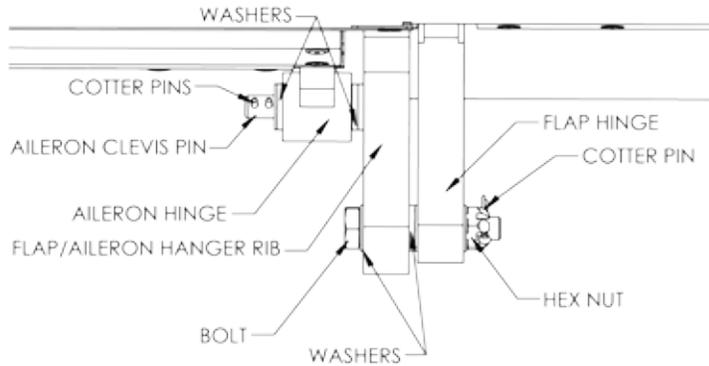

Figure 17 – Outboard Flap Hinge
- (d) At the outboard hinge (Figure 17), install a bolt and washer pointing inboard, through the flap hanger rib, washer flap hinge and washer.